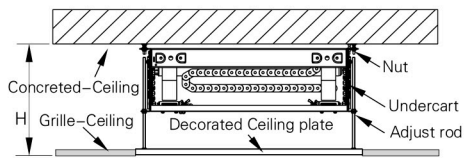

Figure 3 Standard ceiling installation
A. If $H < H1$ (Supposed it's Maximum H2), can install project lift on the Concreted-Ceiling directly. Check Figure 3.